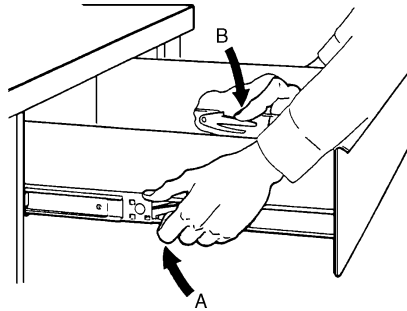

Figure 4. Drawer Removal
4. To remove a drawer (*Figure 4.*), pull the drawer out till it stops. Notice the locking levers located inside the track that is attached to the drawer. Lift the left lever (*A*) while pressing down on the right lever (*B*). Pull drawer clear of the slides.